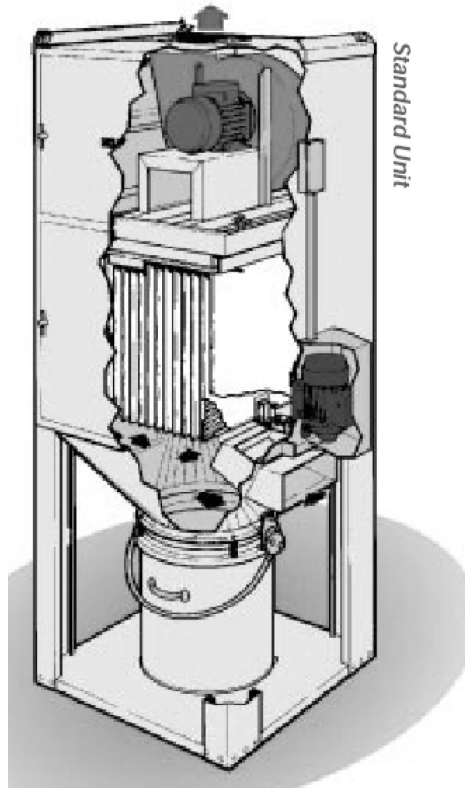

FIGURE 6-15. Bag cleaning by shaking action with airflow stopped
6.3.11 Shaker-Style Filters. Accumulated dust is removed by shaking the entire bag assembly once the system fan is de-energized (see Figure 6-15). Shaker-style filters are therefore not continuous-duty and are typically used on processes where the local exhaust ventilation system can be turned off during production breaks and between shifts. Air typically moves from inside the bags to outside and therefore does not require a metal support cage. Filter pressure will steadily increase during use and will recover when the baghouse tubes are shaken. Extremely fine dust and fumes that do not agglomerate well and that do not fall well in an updraft style baghouse can do very well in shaker-style collectors. Therefore, re-entrainment is not an issue on shaker-style collectors.